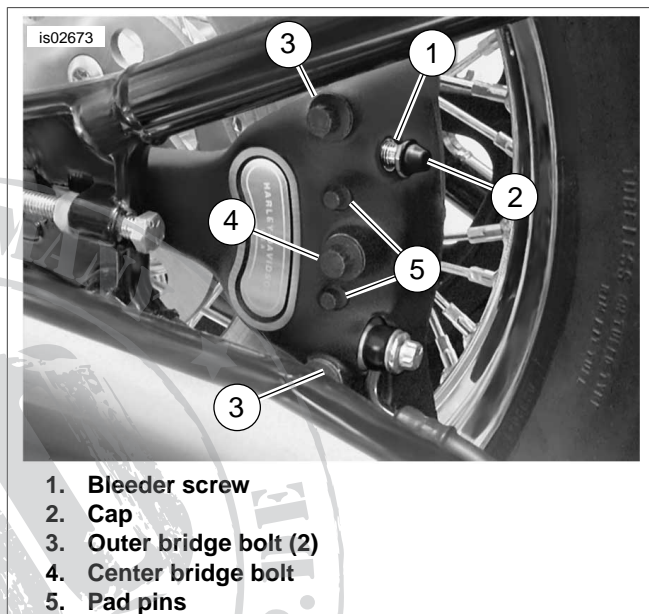
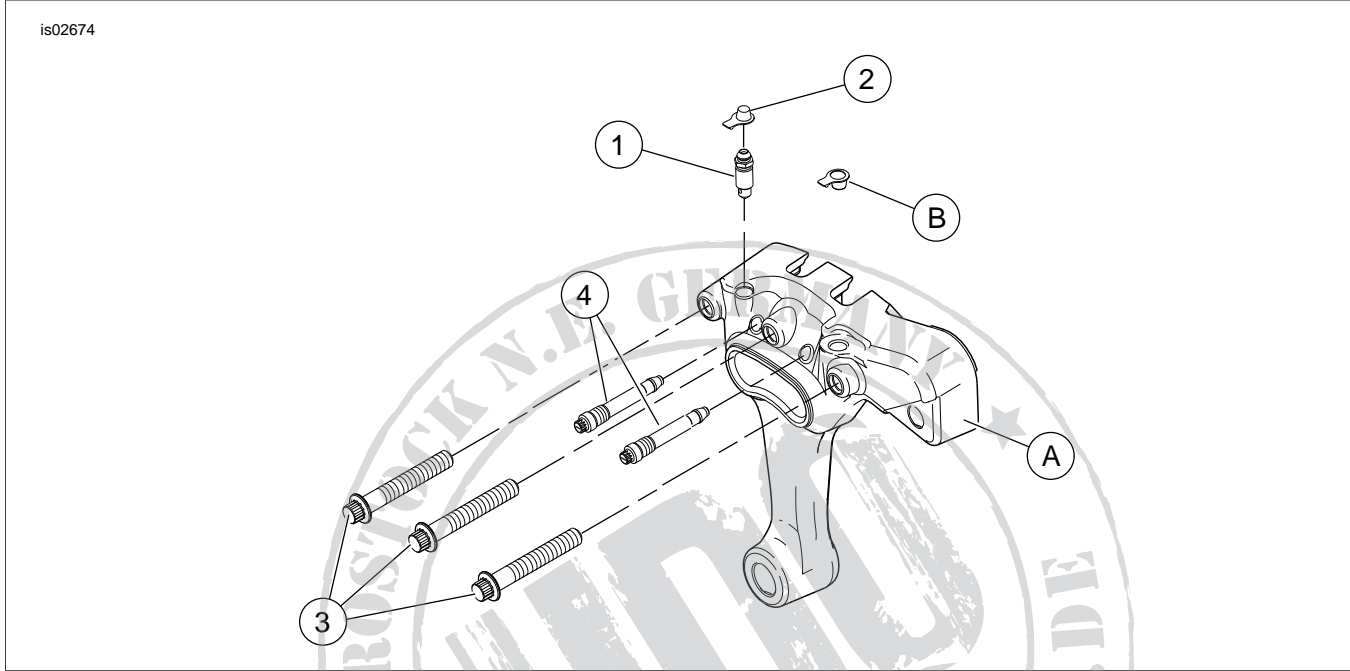

Figure 1. Original Pad Pins and Bleeder Screw on Rear Caliper Brake (Softail Shown)
Figure 2. Service Parts: Chrome Brake Caliper Hardware Kit
See Figure 2 and Table 1.
1. See Figure 1. Remove the existing bleeder screw (1) and bleeder screw cap (2).
2. See Figure 2. Replace the bleeder screw (1) with the screw from the kit. Tighten screw to 80-100 in-lbs (9.0-11.3 Nm).
3. Install bleeder screw cap (B).
4. See Figure 1. Remove the center bridge bolt (4) and replace it with one of the bridge bolts from the kit. Tighten to 28-38 ft-lbs (38.0-51.5 Nm).
5. Repeat step 4 for the two outer bridge bolts (3).
6. Remove one of the pad pins (5).